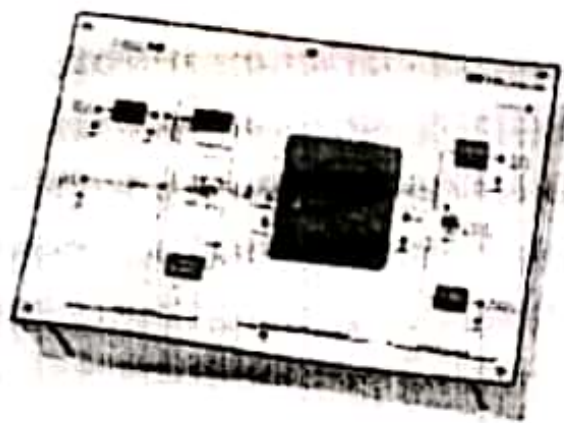

Figure 2-16. Module and Measuring device for experiment
- (1) Prepare module and measuring device like as figure 2-16 and provide power to all devices.